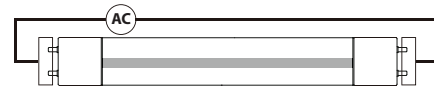

Figure 1. - Double-Ended connection
6. MaxLite LED T5 lamps are designed for double-ended connections only (**Figure 1**).